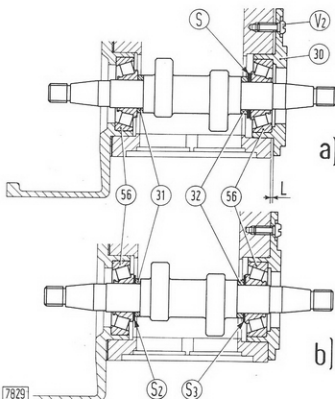

Fig. 50 - Adjusting the Camshaft Bearings
Position the tapered roller bearings (56, Fig. 50) on to the camshaft, together with rear spacer (31), front spacer (32) and a pack of shims (s) sufficient to obtain a clearance (L) between bearing cap (30) and pump body (see a).